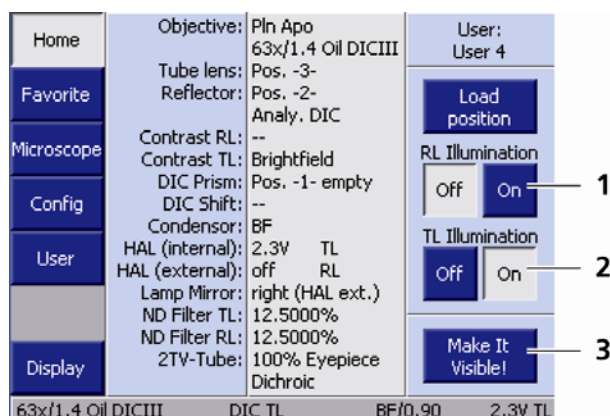

Fig. 100 Controls
- **Reflected-light illumination** button (Fig. 100/1)
- **Transmitted-light illumination** button (Fig. 100/2)
– **Make It Visible! Button** (Fig. 100/3)